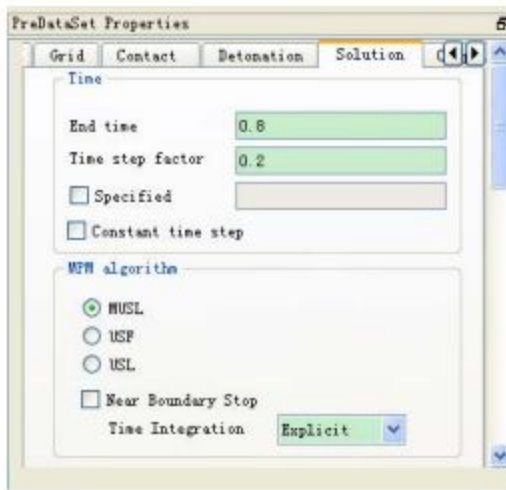

图 5.27: Solve Settings
- 7.1 Click the Solution button to enter the property page, as shown in Figure 5.27;
The settings of this study are shown in Figure 5.27;